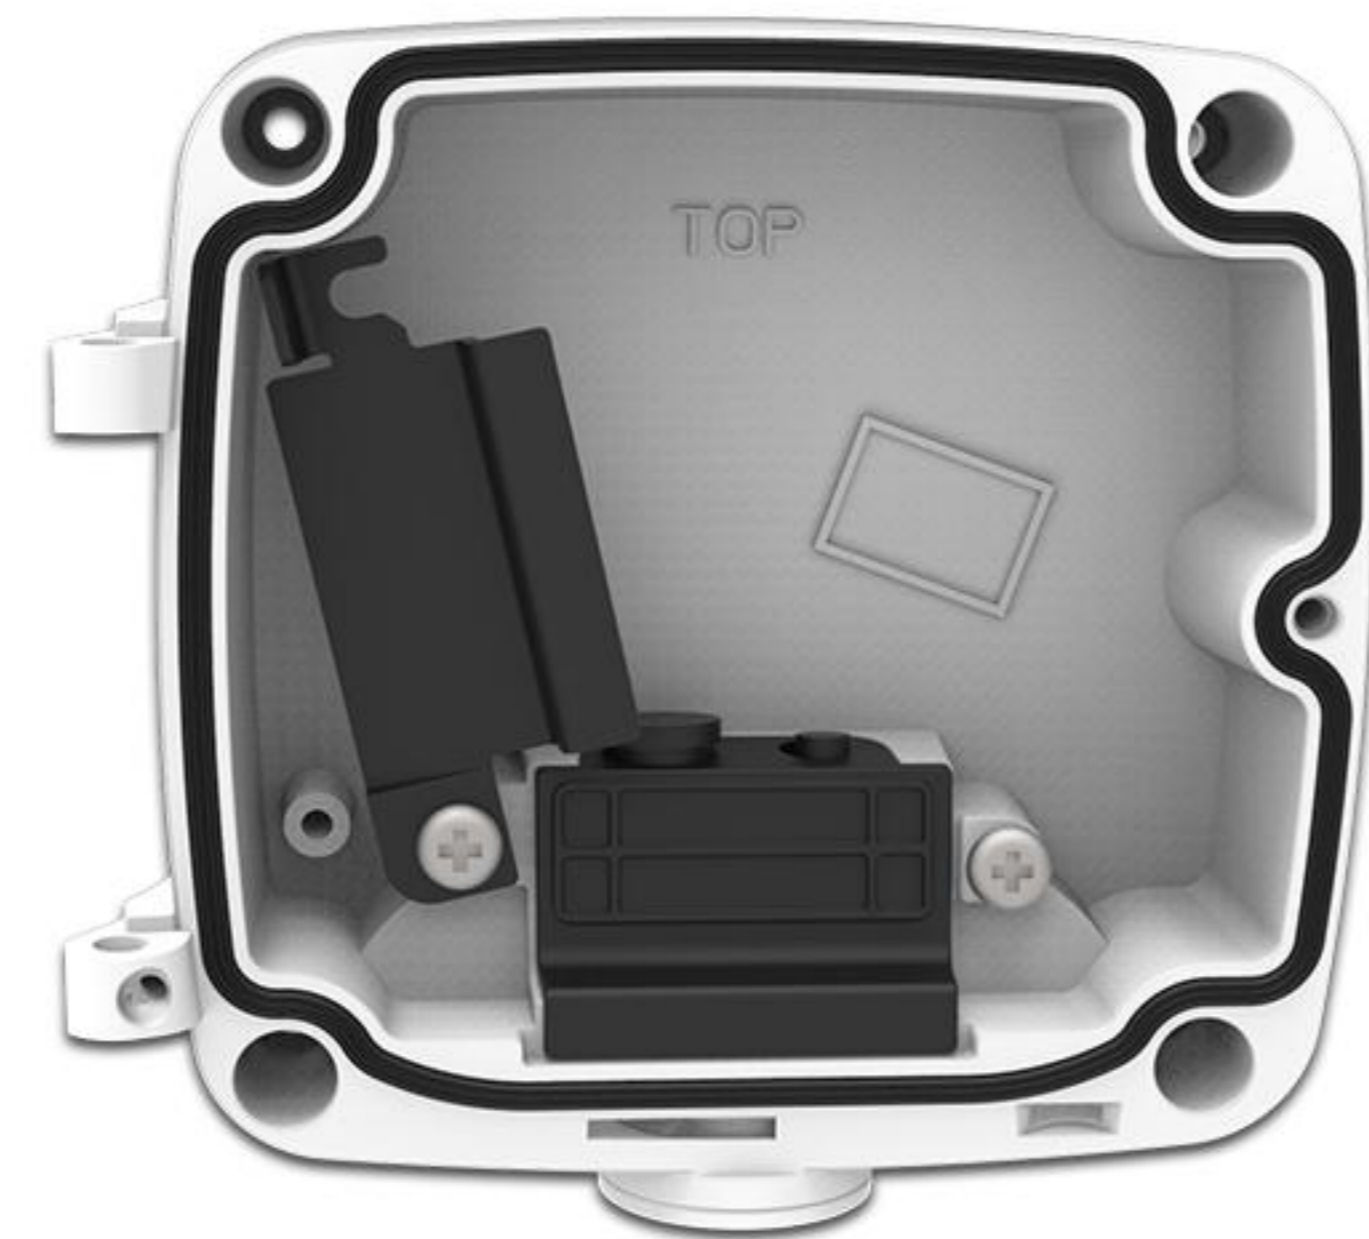
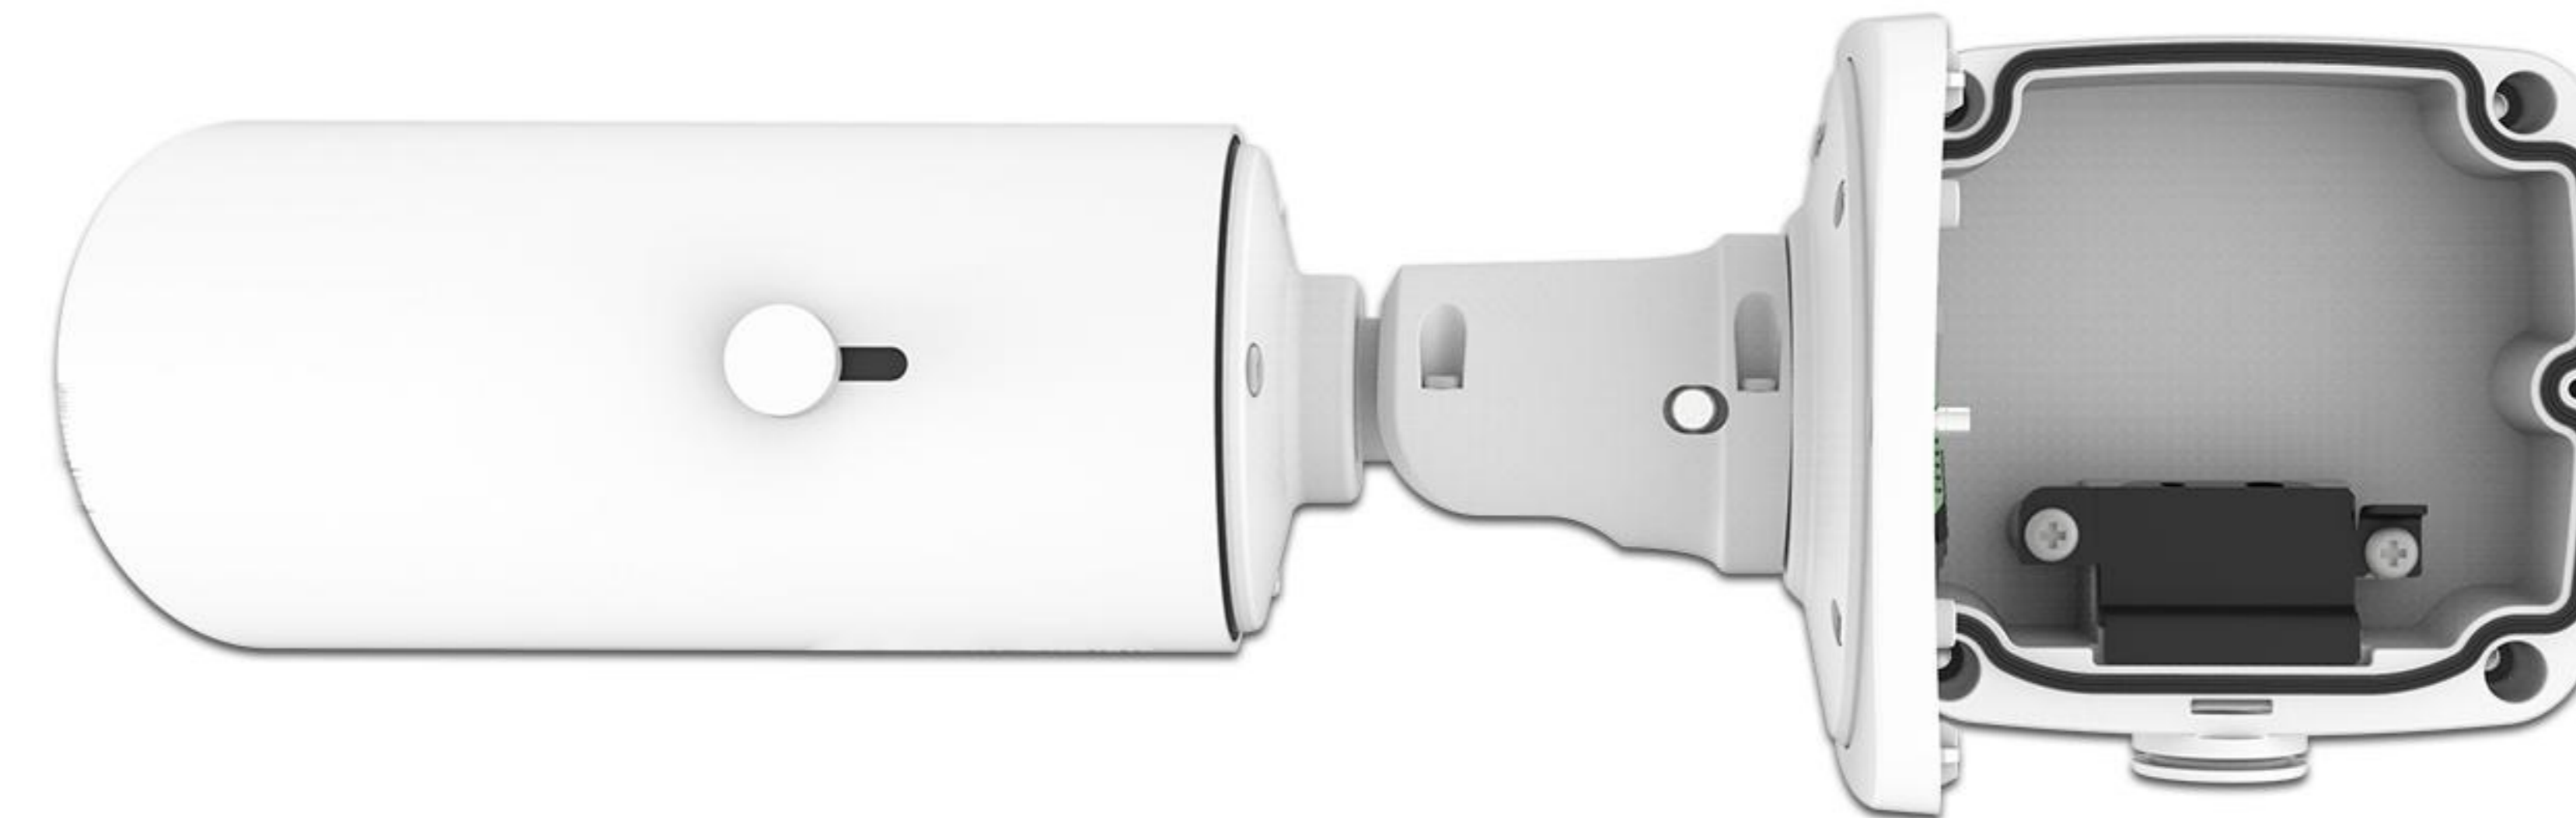

Figure 32
Figure 33
**Step 6:** Turn the Black Rubber Plug back to the Cable Entry Hole (Figure 32) to prevent the ingress of dust or water. Put back the Black Metal Plate and screw it tightly (Figure 33);